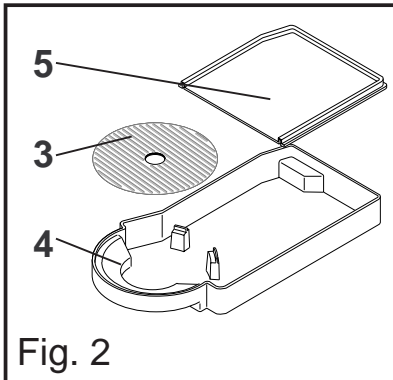

Fig. 2
- Withdraw the drip tray (4) and remove the cover (5). (Fig. 2)
- Empty the drip tray (4). Clean the drip tray (6). (Fig. 2, 3)
- Clean drip grid (3) and drip tray (4) in hot water with cleaning agent and dry them. (Fig. 2)